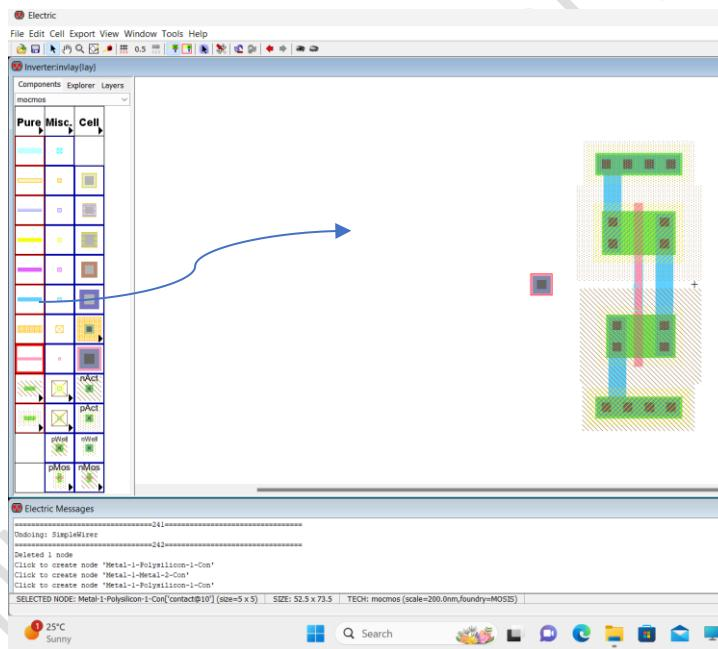

Figure 1.43: Adding a contact for input.
9. Put the contact for input as shown below. (see Figure 1.43).